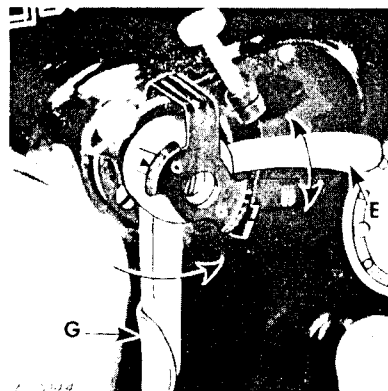

Fig. 36
**SETTINGS:** Bight control lever **E** at any desired setting **between lowest and highest** point and position lever **G** at **lowest** point, as shown in Fig. 36.